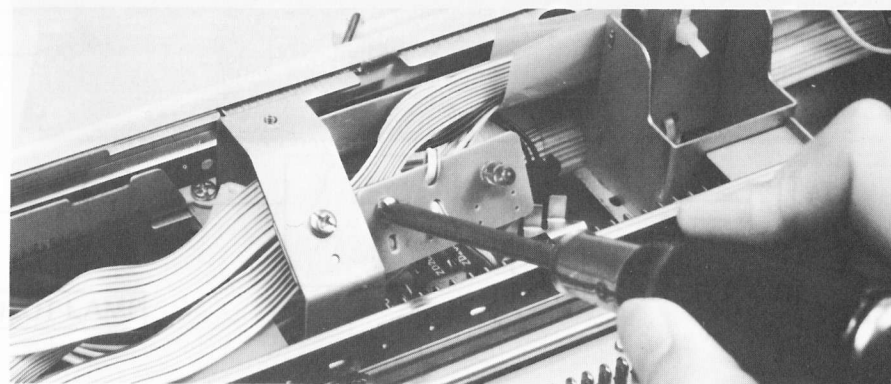

Fig. 70
- 3). Remove the pilot lamp holder from the pattern case setting base. (Fig. 70)